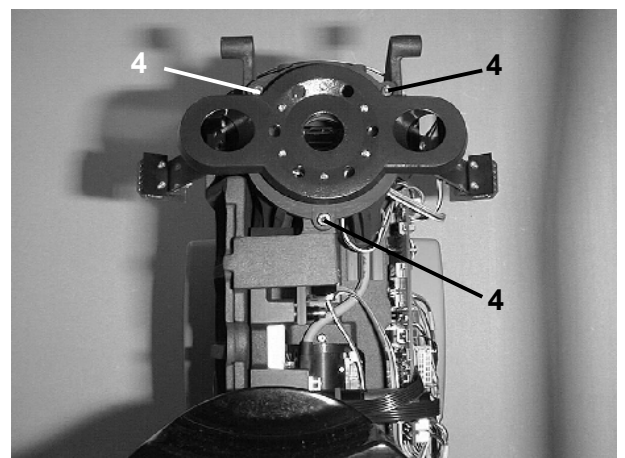

Fig. 13b
- Remove three screws ((4) Fig. 13b) and then the keratometer.
- Insert keratometer and slightly tighten three screws ((4) Fig. 13b).
- Tighten screws ((4) Fig. 13b).